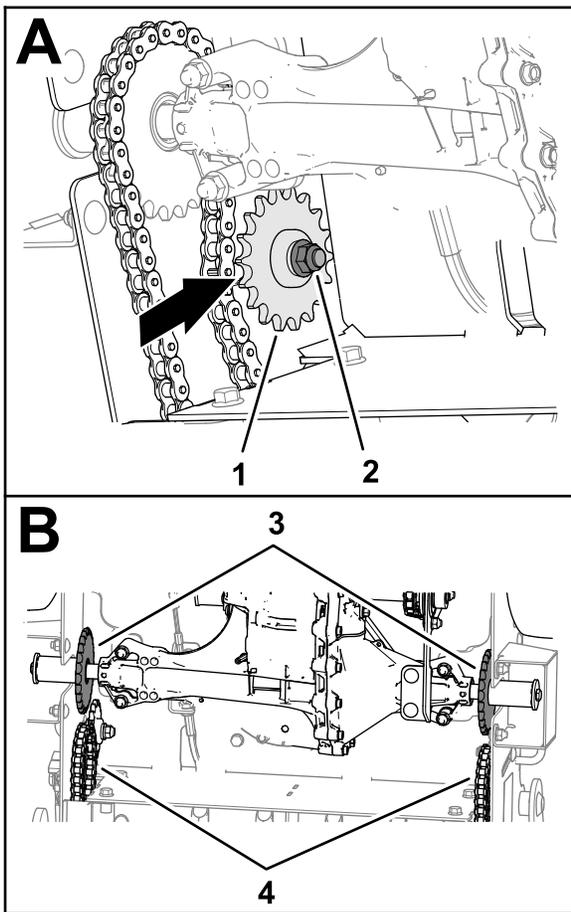

Figure 54
4. Loosen the carriage bolts and flange locknuts that secure the idler sprockets for the tine-drive chains at each side of the machine, and move the sprocket away from the chain (Figure 54).
- Remove the connecting links from the tine-drive chains, and remove the drive chain from the front tine-drive sprockets (Figure 54).